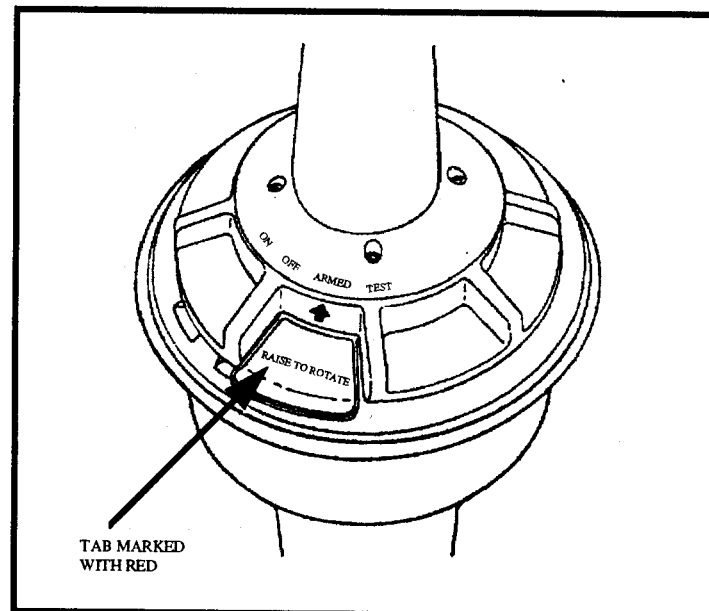

Figure 10-2. 406 EPIRB in armed position
(2) **Operation.** Store the beacon in its special bracket and free of obstructions. This will ensure that it will automatically float off and activate if the vessel sinks. The person responsible for manually removing the beacon and attaching to personnel or survival craft with the provided lanyard will be designated on the station bill. When set to "ARMED", the beacon starts transmitting when removed from the bracket (see Figure 10-2, page 10-6). It transmits tone modulated signals (VHF 121.5 MHz) so rescue aircraft or vessels equipped with suitable direction finding receiving equipment can "home" to the transmitting unit. Other means of detection are by COSPAS or SARSAT satellites.